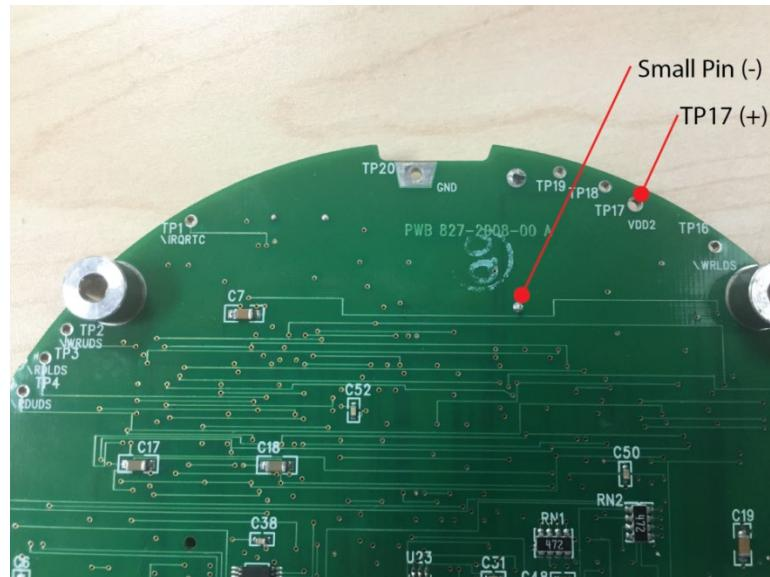

Figure 72. **Lithium Battery Test Points on the CPU Board**
5. Measure the voltage on the CPU board between TP17 (BAT+) and the small pin on the battery located on the back side of the CPU board (GND) (see Figure 72).